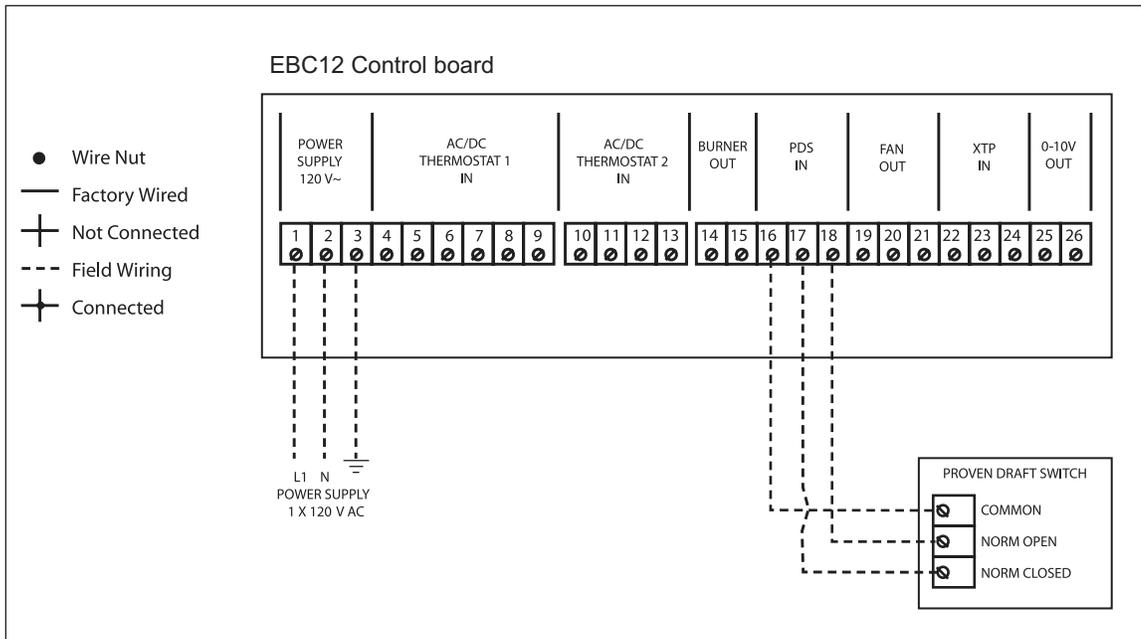

Fig. 12
Fig. 12 shows how to connect a external Proven Draft Switch (PDS) to the EBC12.
- Connect the switch to terminals 16, 17 and 18 as shown on fig. 12.